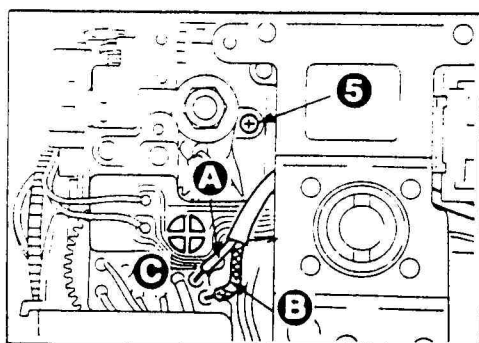
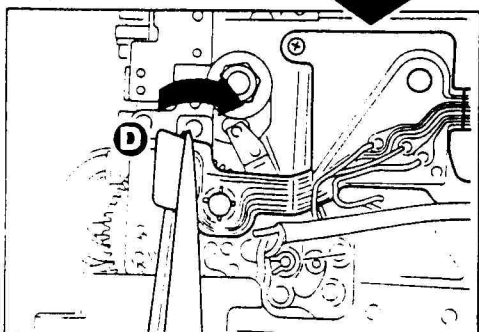

Fig. 2 BOTTOM VIEW
Fig. 3
2. Unsolder orange (C) and black (D) lead wires from the switch S4. (See Fig. 2.)
3. Unsolder pink (E) and black (F) lead wires from the MR unit (B) (magnet). (See Fig. 3.)
3. Remove the synchro-cords (A) and (B) from the relay substrate. (See Fig. 2.)
4. Unsolder four connected points of the main flexible substrate (C), using the desoldering wire (solder-wick).
5. Peel off the main flexible substrate in the arrow direction. (As this is adhered with pressure sensitive double coated tape, be careful not to break the flexible substrate. (See Fig. 3.)